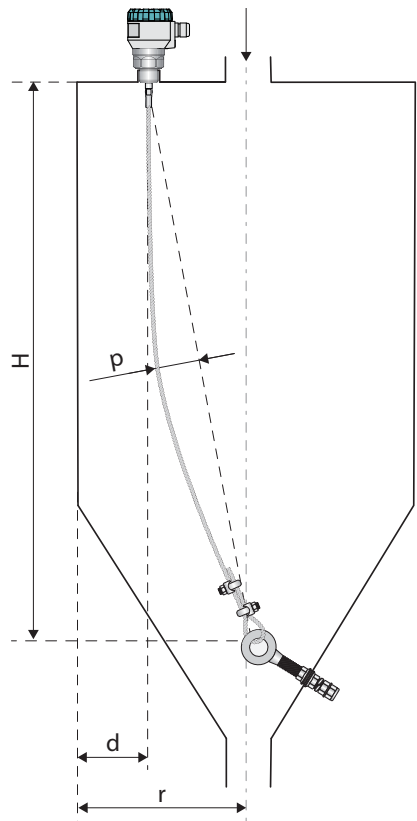

Fig. 20: Recommended installation of the product with anchoring on the opposite side of the silo
- For applications with bulk solids it is appropriate to anchor the rope electrodes at the opposite sides of the tank (silo) so that the rope is sagging, see Fig.20. Minimum recommended sag is $p = H/100$ [mm]. This installation increases the resistance of the rope to tension load.
opposite side of the silo (Fig. 20)	any
In the event of strong ambient electromagnetic interference, paralleling of conductors with power distribution, or for distribution to distances over 30 m, we recommend grounding the level meter (see above) and using a shielded cable. Ground the shielding of the cable on the side of the power supply, or the shielding is possible to connect only on inside pin of the level meter marked see fig. 20 and 22 (shielding of the cable is always connected in a single location).